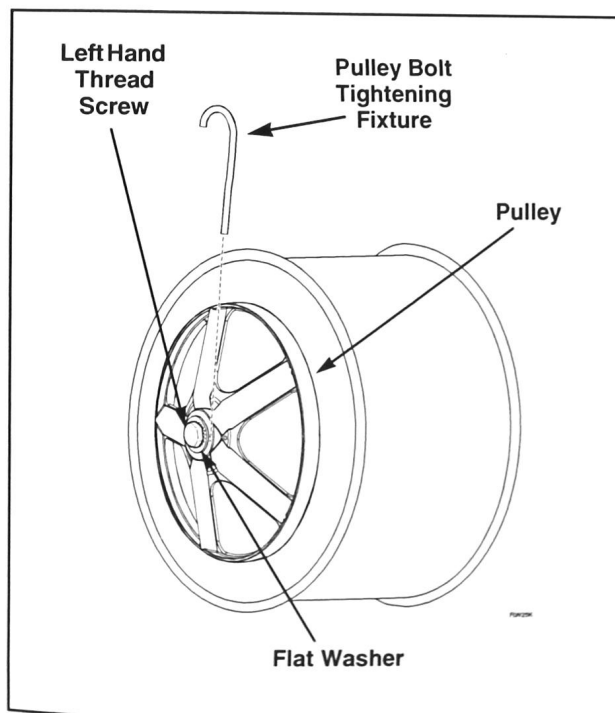

Figure 2
4. Install pulley bolt tightening fixture between the flat washer and the pulley. Refer to *Figure 2*.